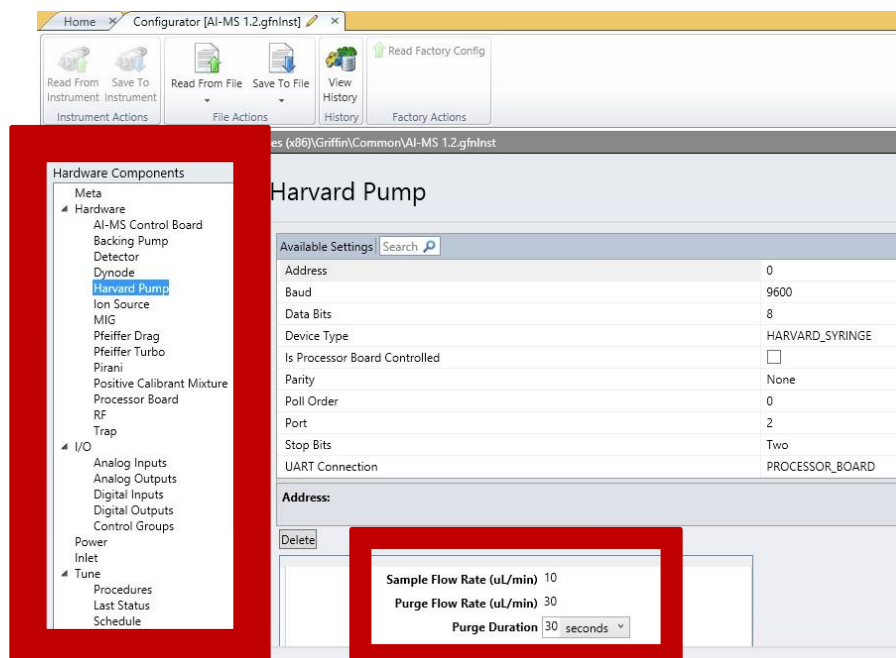

Figure 3.8 – Selecting “Harvard Pump” screen
4. To alter the flow rates for a particular ionization source, select “Harvard Pump” from the “Hardware Components” list on the left portion of the screen. After selecting the “Harvard Pump,” a box displaying “Sample Flow Rate (μL/min)” will appear in the bottom portion of the screen (Figure 3.8).